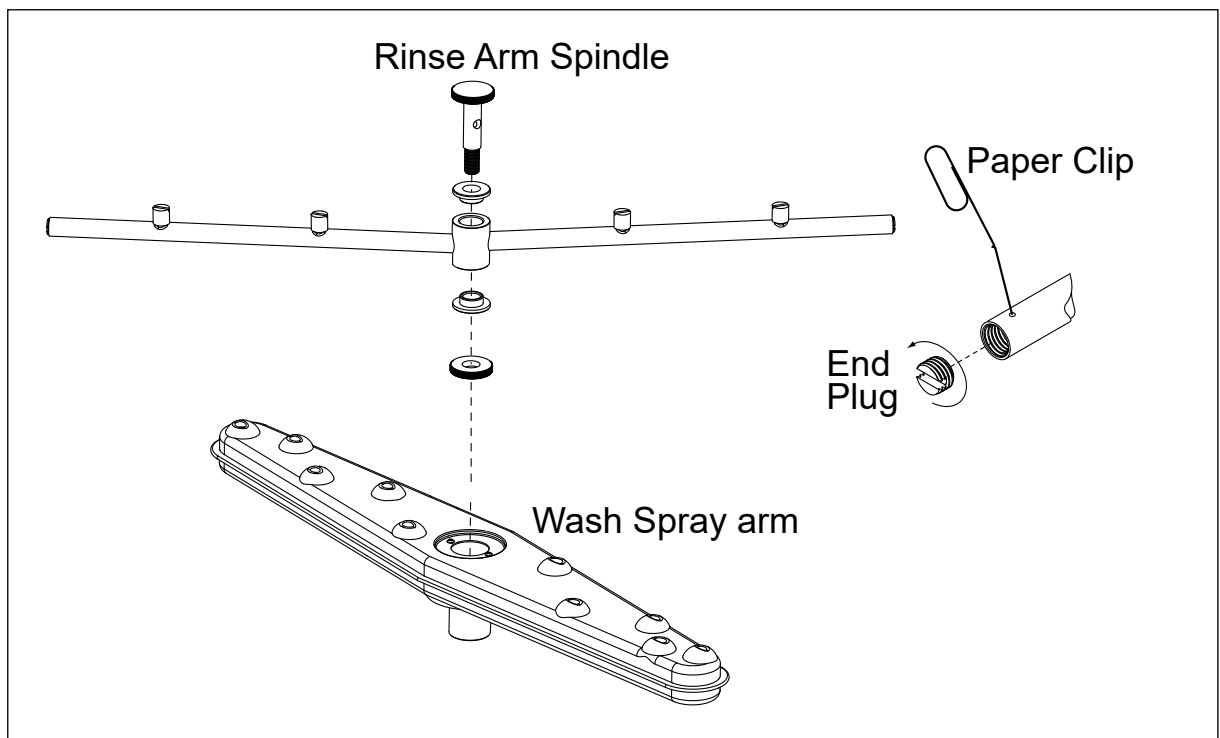

Fig. 8
5. Check the rinse spray arm nozzles. If necessary, remove the end plugs and clean the nozzles with a small paper clip (Fig. 8). Flush the arms clean and replace the end plugs (Fig. 8).